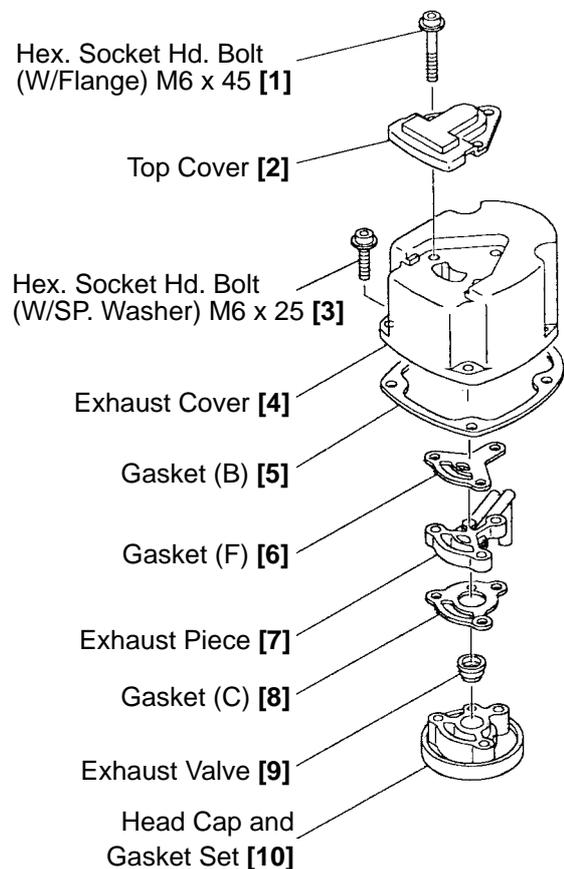

Fig. 13 Disassembly of main body, upper part
(2) Head Cap and Gasket Set [10], Exhaust Piece [7] and related parts (See Fig. 13.)
- Loosen the three Hex. Socket Hd. Bolts (W/Flange) M6 x 45 [1] and as illustrated in Fig. 13, remove the Head Cap and Gasket Set [10], Exhaust Valve [9], Exhaust Piece [7], Gasket (C) [8] and Gasket (F) [6].